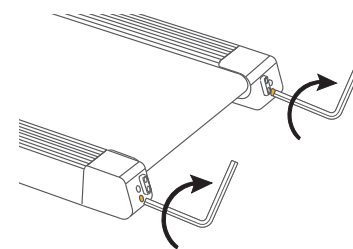

Figure 3
2. Using the **hex tool A**, turn both idler roller screws clockwise **1/2** of turn(refer to figure 3).